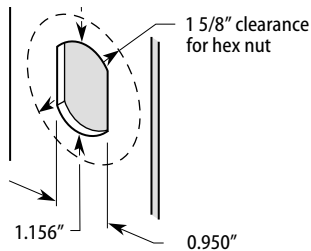

Figure 1 Fabricating the cylinder mounting hole
- Fabricate the mounting hole as shown in Figure 1. For more information, see the appropriate Installation Specification. For a complete list of Installation Specifications see the BEST web site [www.BestAccess.com](http://www.BestAccess.com).